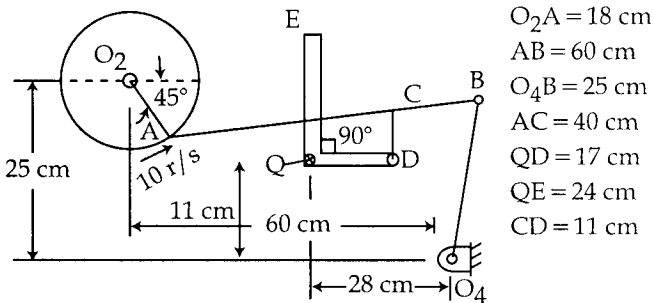

Fig. 1
- (b) Determine velocity of point E in a mechanism shown in fig. 1.